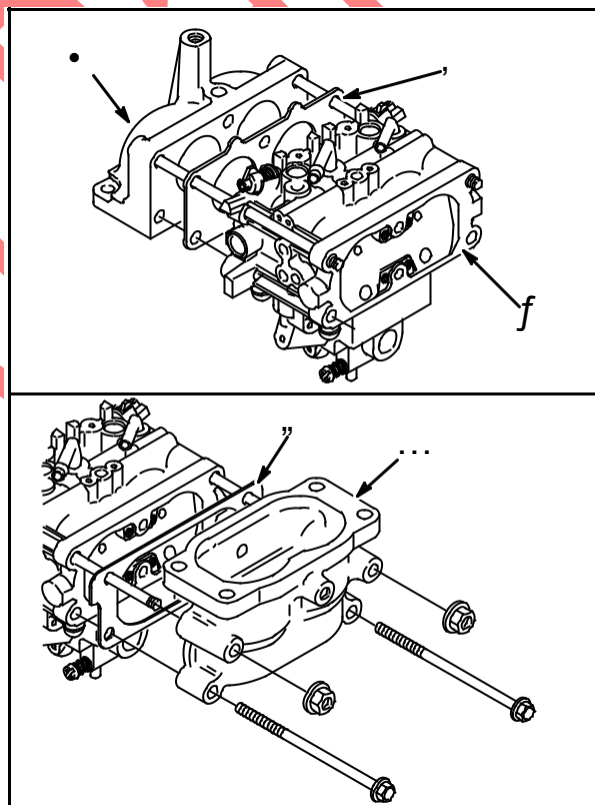

Fig. 32
Assemble intake elbow (1) and air cleaner elbow to carburetor (3) with new gaskets (2, 4) **Fig. 32**.